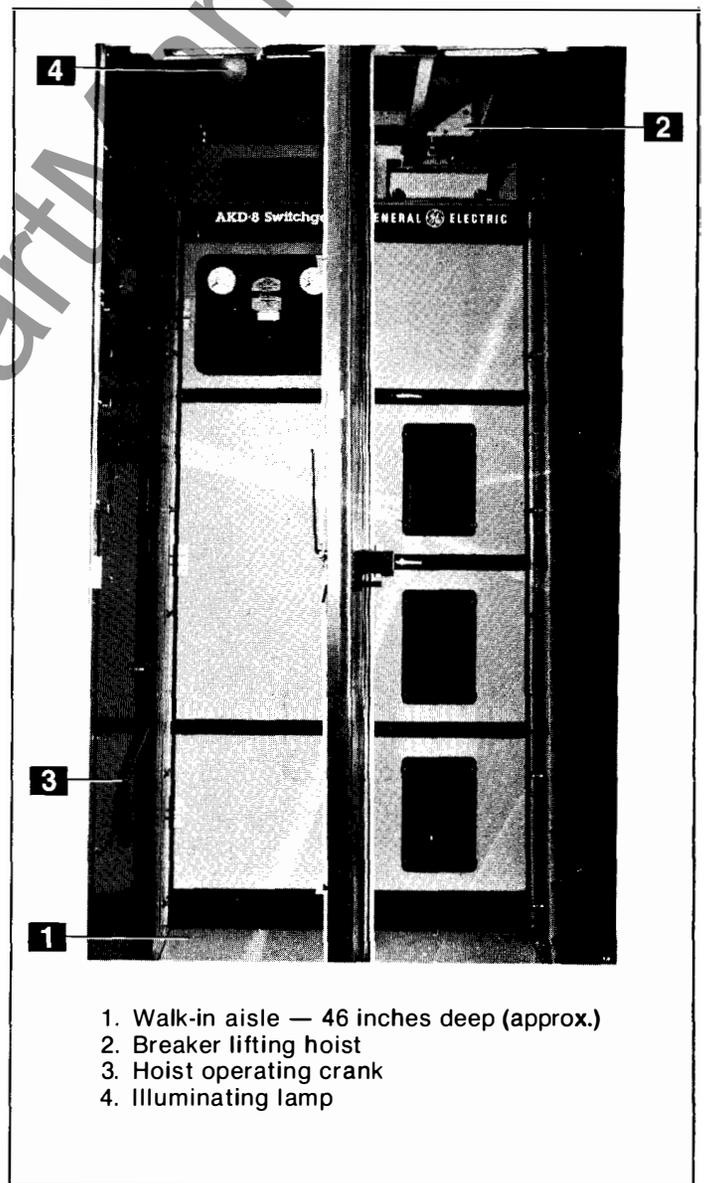

Fig. 3-31. AKD-8 Switchgear outdoor enclosure
AKD-8 switchgear designed for outdoor installations is fully weatherproofed. See Fig. 3-31 and 3-32. A weatherproof housing completely encloses the switchgear and is provided with a walk-in front aisle for easy access to all controls and instruments.
A light with wall switch (2), Fig. 3-32 and a 115-volt convenience outlet (4) are standard devices supplied with outdoor switchgear equipments. Also included in the walk-in front aisle area are the breaker lifting device (2), Fig. 3-31, and storage provision for the hoist operating crank (3).